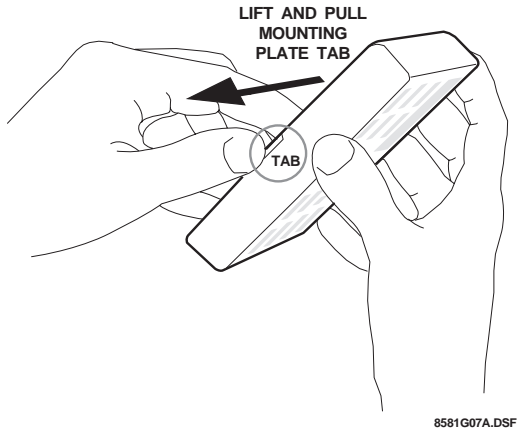

Figure 1. Separating the Touchpad from the Mounting Plate
1. Separate the mounting plate from the touchpad by pressing the tab at the bottom and sliding the mounting plate down (see Figure 1).